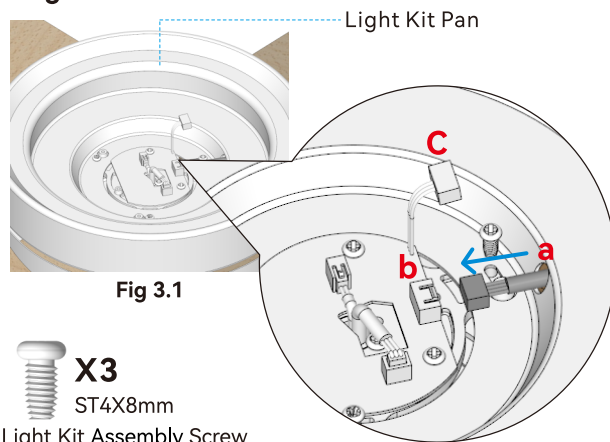

Fig 3.1
3.1 Connect the male plug (a) from the light kit pan to the female terminal block (b) on the PCB board as shown in Fig. 3.1.